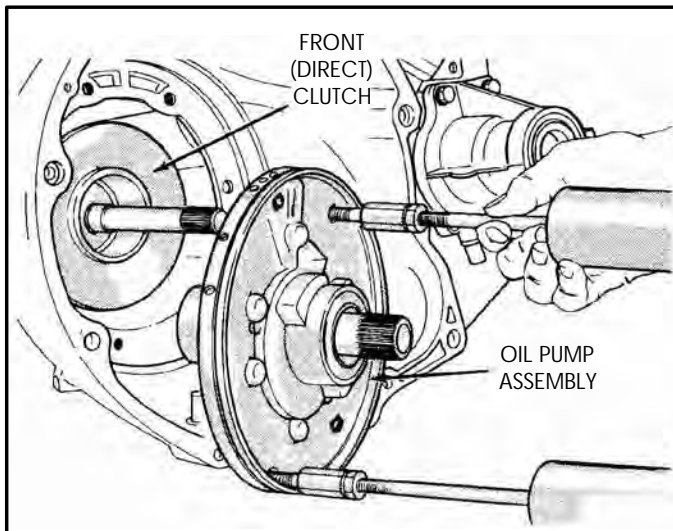

Figure 41
20. Remove the oil pump assembly from the case, as shown in Figure 41, and set pump assembly aside for component rebuild section.